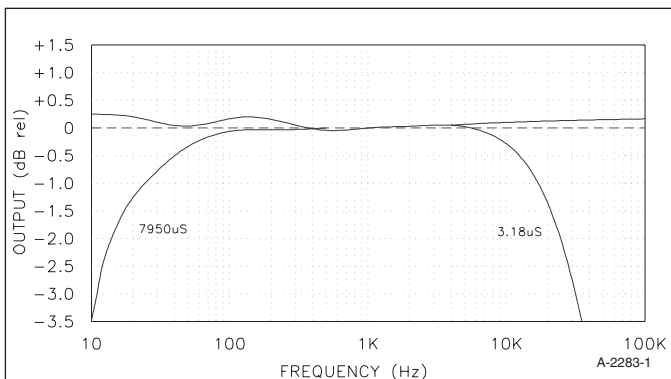

FIGURE 1: RIAA equalization error.
*Figure 1* shows the relative RIAA equalization error (solid line), where 1kHz is the 0dB point. Gain at 1kHz, 10mV MM input, was exactly 40dB. Setting the DIP switches at the highest (MC) setting produced 80dB gain. The RIAA accuracy was within +0.2/-0.04dB